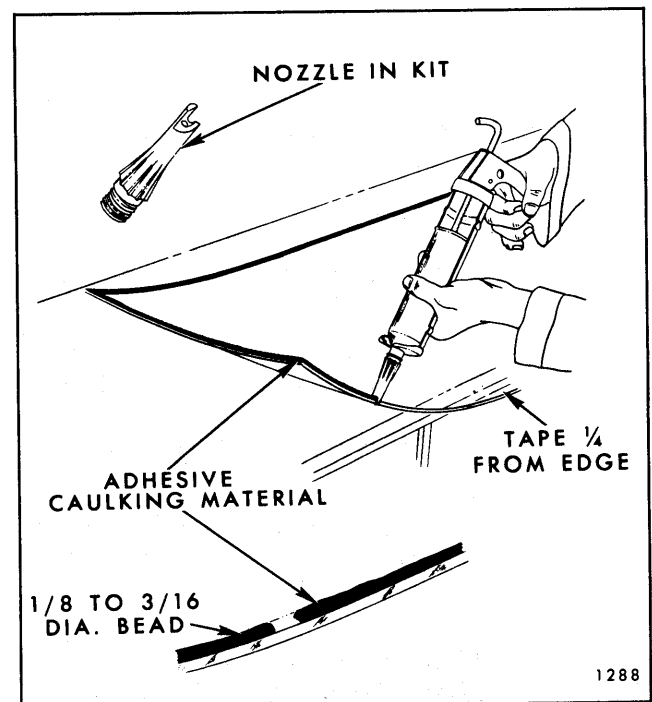

Fig. 4-5—Adhesive Material Application - Short Method
7. Apply a smooth continuous bead of adhesive caulking material around entire inside edge of glass as shown in Figure 4-5. Material should be  $1/8$ " to  $3/16$ " in diameter.